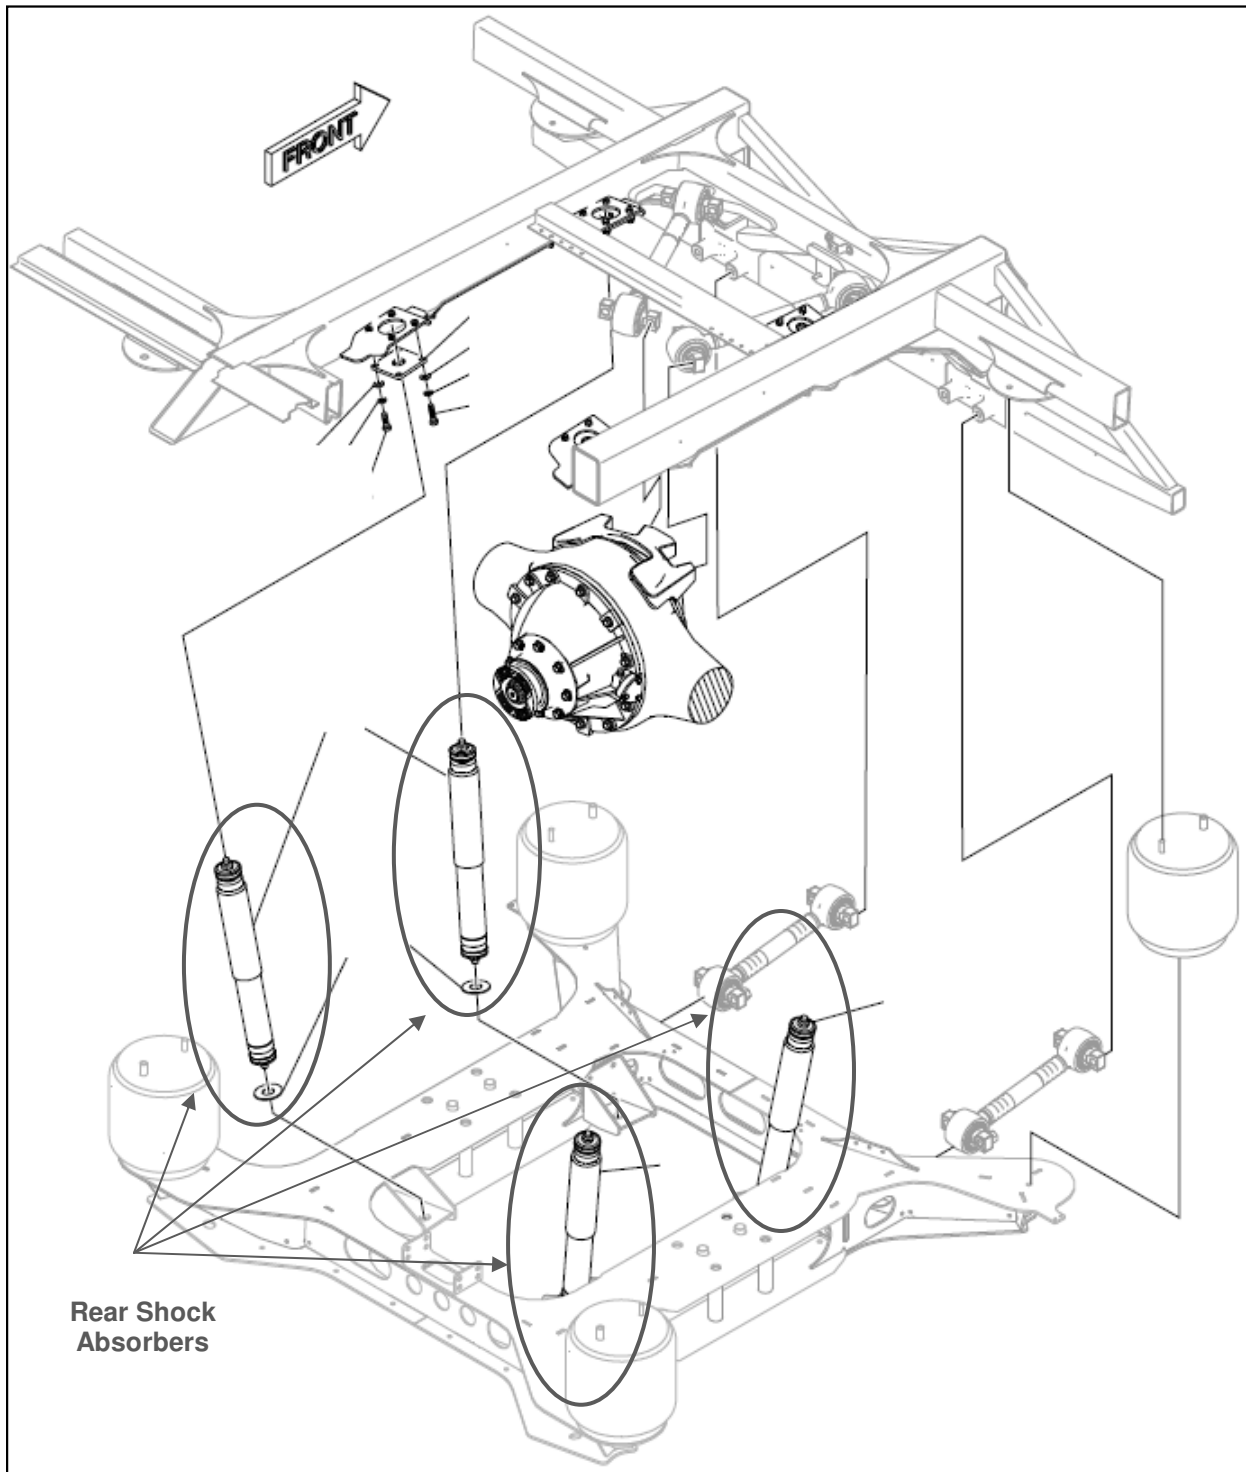

Figure 5: Rear shock absorbers
12. Locate the rear shock absorbers as shown in Figure 5.